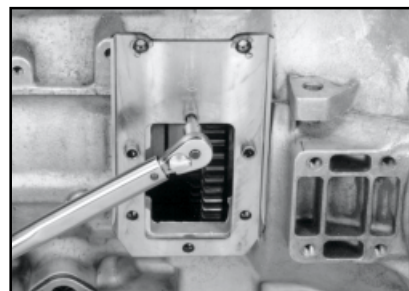

Figure 3
3. Next, fasten the special mounting plate onto the opening with the three (3) socket head bolts. The three socket head bolts always go in the three holes closest to the two (2) welded-on nuts. Figure 3 shows the plate position for a P.T.O. with a "5" assembly arrangement. Torque the three socket head bolts to 300 in. lbs. (3.5 kg. meters) using an inch pound torque wrench.